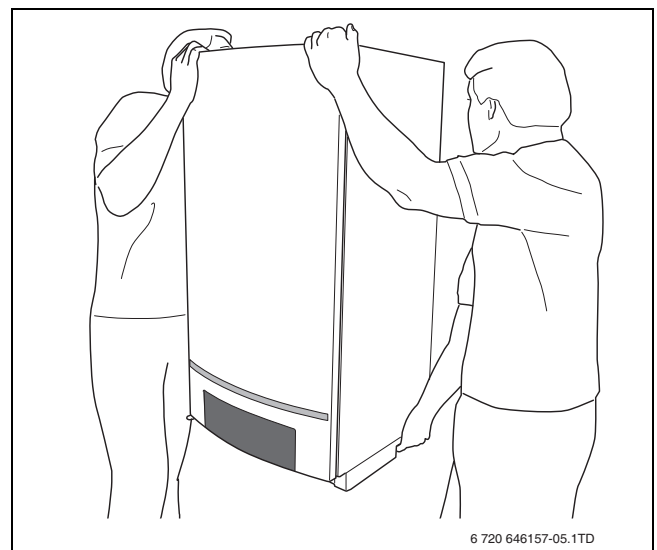

Fig. 6 Lift and carry the boiler correctly
- ▶ Always lift and carry the boiler with 2 people as shown in fig. 6, or use a hand truck or special equipment.
- ▶ With 2 people, lift the boiler by holding it by its back and by the transport rail at its bottom and install it on the wall bracket (→ fig. 6, page 11).